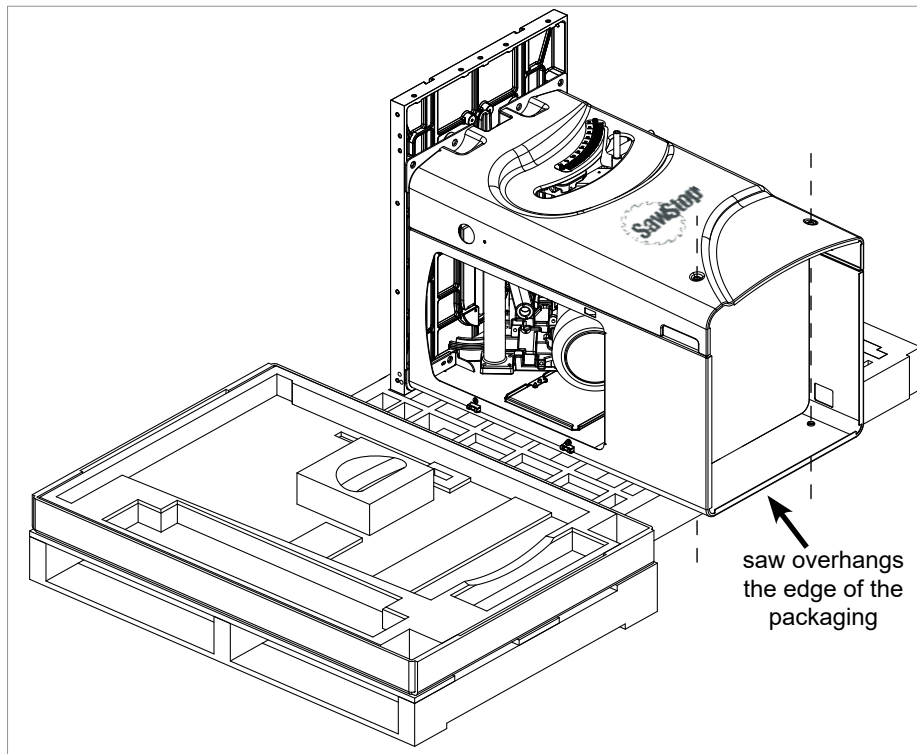

Fig. 1
1. You need access to the bottom of your saw to install the mobile base. The easiest and safest way to provide that access is to leave the saw facing up on the packaging and slide it so that the bottom of the cabinet overhangs the edge of the packaging as shown in Fig. 1. The saw should overhang the packaging enough to clear the rectangular and circular holes around the bottom of the cabinet.